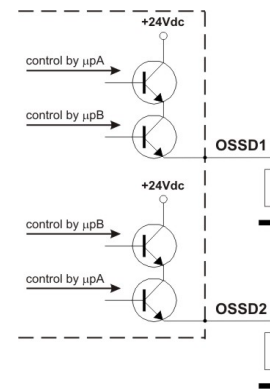
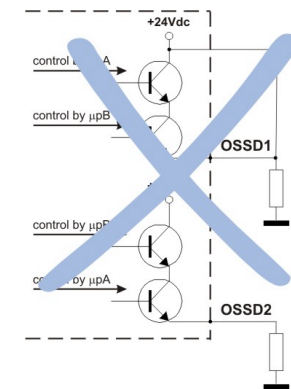

Fig. 15
Fig. 16
- The safety contacts OSSD1 and OSSD2 cannot be connected in series or in parallel; both can be used separately (Fig.15). If one of these configurations is wrongly used (Fig.16, 17, 18), the device enters into the output failure state (see cap.7 "Diagnostic functions").